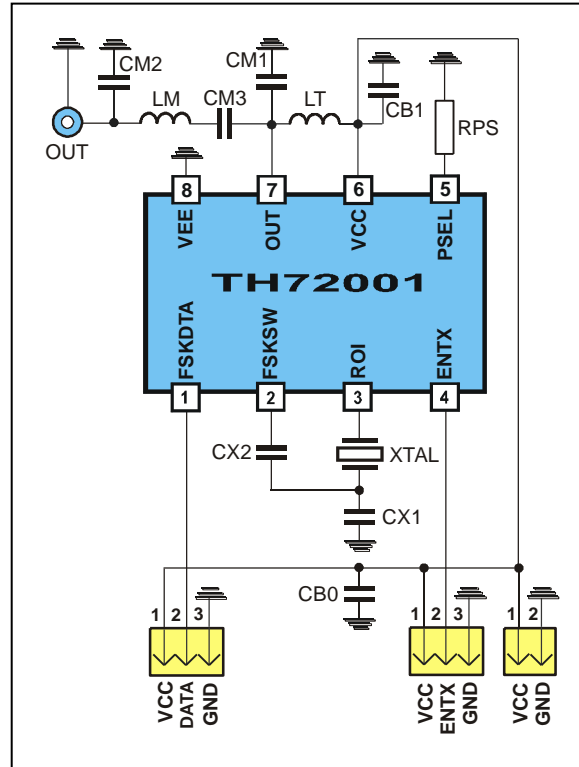

Fig. 18: Test circuit for FSK with 50 Ω matching network
typical values at $T_A = 23\text{ }^\circ\text{C}$ and $V_{CC} = 3\text{ V}$; test circuit shown in Fig. 18, $f_c = 315\text{ MHz}$
- Data according to test circuit in Fig. 18
6.1. Test circuit component list to Fig. 18